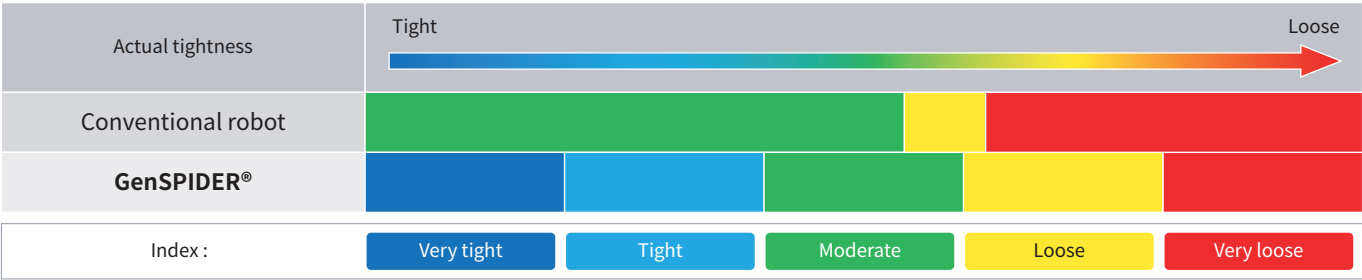

Figure 1. Classification of Stator Wedge Tapping
**stator wedge looseness.** By comparison, the conventional robot is able to fully evaluate “tight” and “loose”, however does not have sufficient capability to distinguish “moderate”. A classification comparison of stator wedge tapping between GenSPIDER® and the conventional robot is shown in Figure 1.